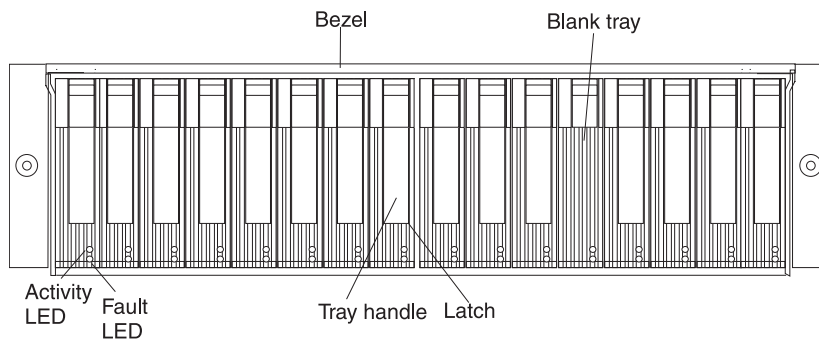

Figure 81. Hot-swap E-DDM LEDs
2. Check for Fault LEDs shown in Figure 81. If any amber LEDs are lit, see “Solving problems” on page 157.